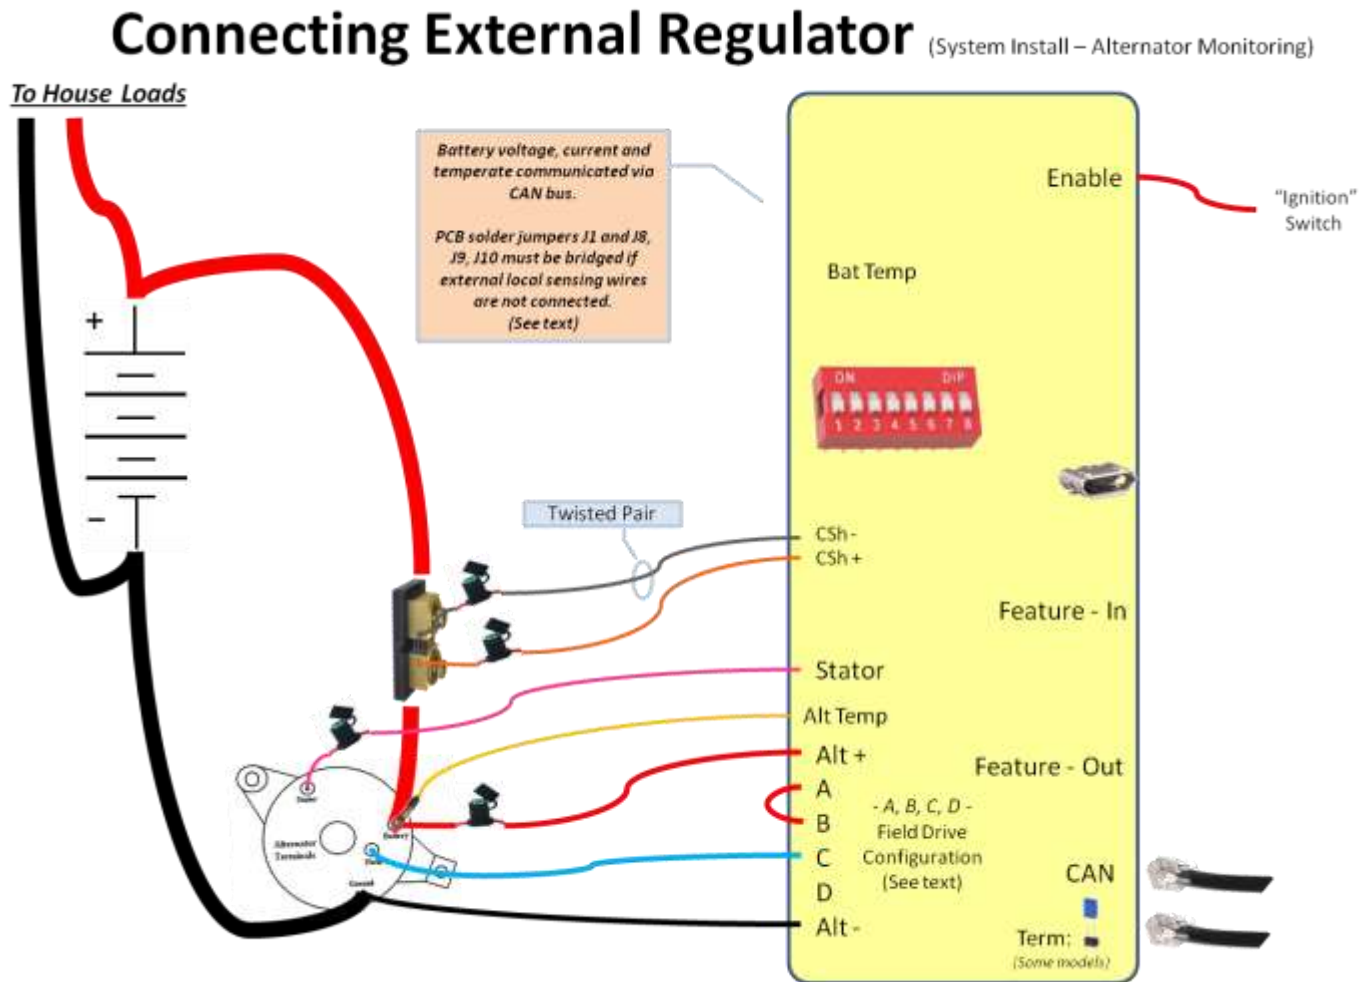

Figure 9: Wiring Diagram (Systems install with Alternator Monitoring)
- Alternatively these may be connected locally to the alternator if the regulator will remotely receive battery voltage via the CAN bus. Refer to “Systems Installation” in Figure 9 on page 14
By taking advantage of remote instrumentation as shown in the example above, we can then use the remaining Alternator Regulator ports to monitor the alternator its self, using the wiring as shown in Figure 9: